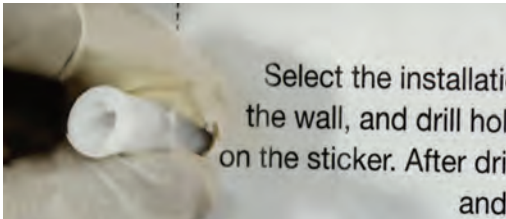

Fig. 4.84
7. Push plastic inserts into the hole using a hammer as shown in Fig. 4.84.